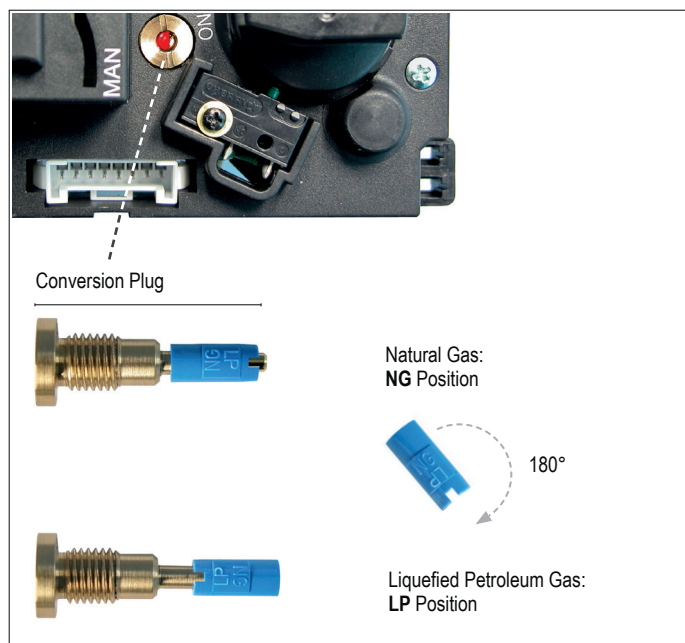

Figure 17: Conversion from one gas to another
- Turn the conversion plug (see figure 17, page 9) counterclockwise ⤴ to remove.
NOTE: Unscrew only the Conversion Plug with a slotted screw driver. Do not adjust the smaller screw under the red tamper proof paint (see figure 17).